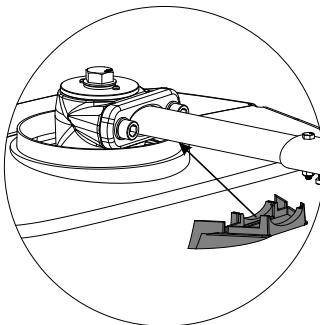

Figure 2. Position the Top Cap Shield
3. Secure shield to underside of operator arm with zip ties. (Figure 2)